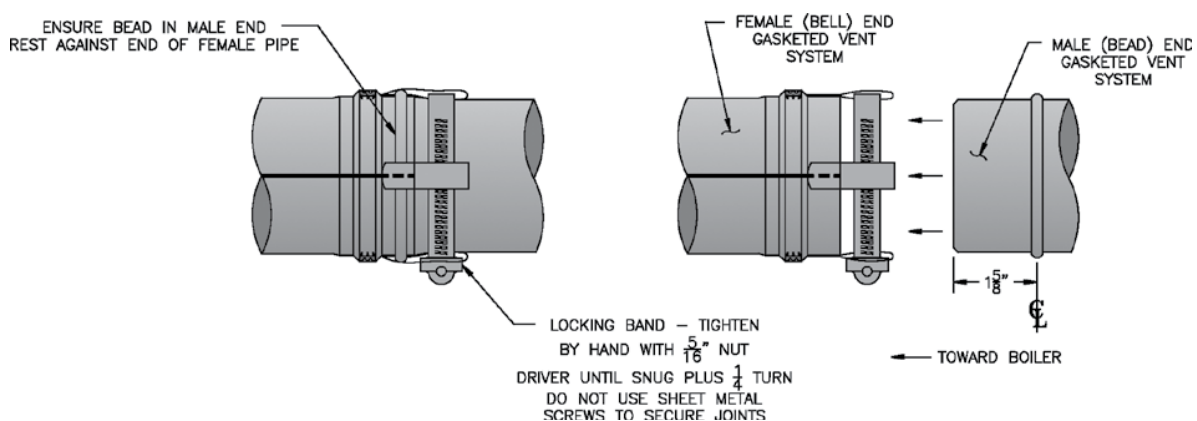

Figure 3B: Burnham Gasketed Vent Joint Detail
1. Procedure for Joining Burnham Gasketed Vent Pipe and Fittings. See Figure 3B.